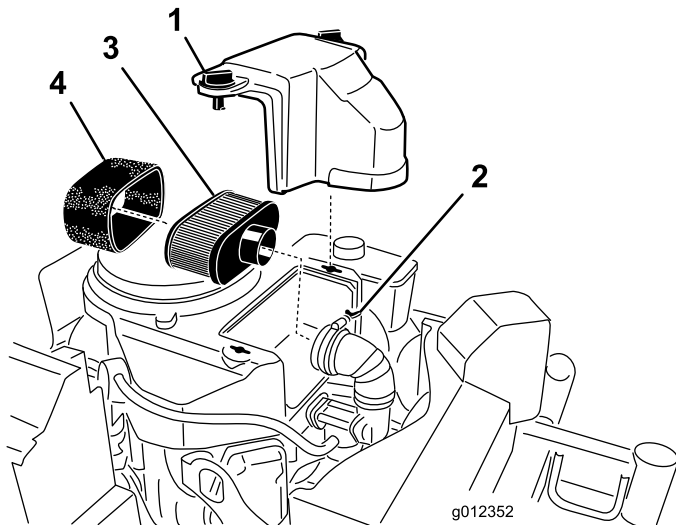

Figure 40
3. Clean around the air cleaner to prevent dirt from getting into the engine and causing damage (Figure 40).
4. Unscrew the cover knobs and remove the air cleaner cover (Figure 40).
5. Unscrew the hose clamp and remove the air cleaner assembly (Figure 40).
6. Carefully pull the foam element off the paper element (Figure 40).
1. Do not clean the paper filter, replace it (Figure 40).
1. Carefully slide the foam element onto the paper air cleaner element (Figure 40).
2. Place the air cleaner assembly onto the air cleaner base or hose and secure it (Figure 40).
3. Place the air cleaner cover into position and tighten the cover knob (Figure 40).